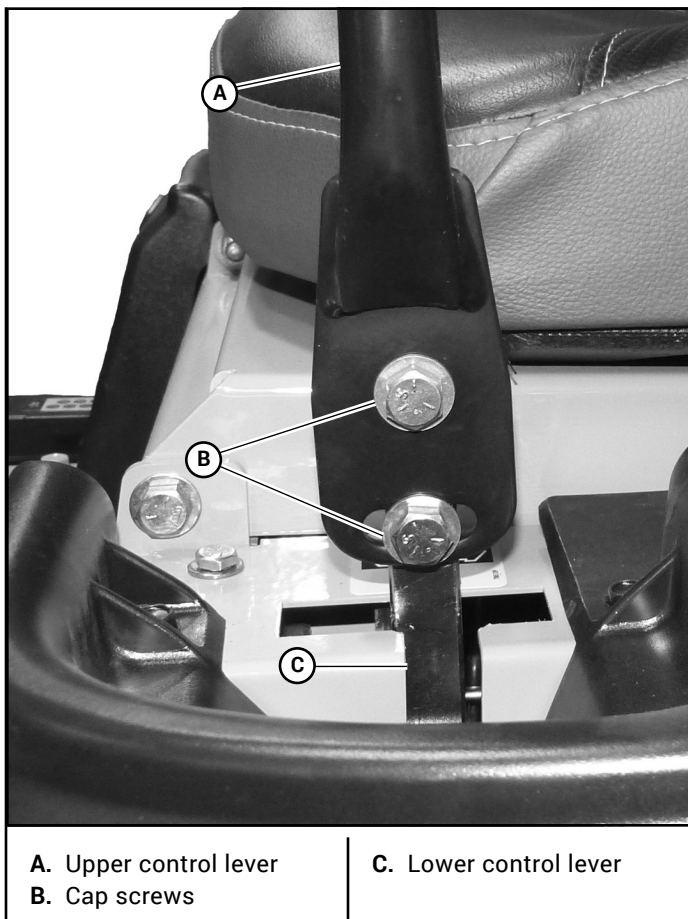

Figure 4-13
- To pivot the upper control levers forward or rearward, loosen the cap screws that attach the upper control lever to the lower lever. Then, pivot the upper control lever. Tighten the cap screws. Figure 4-13